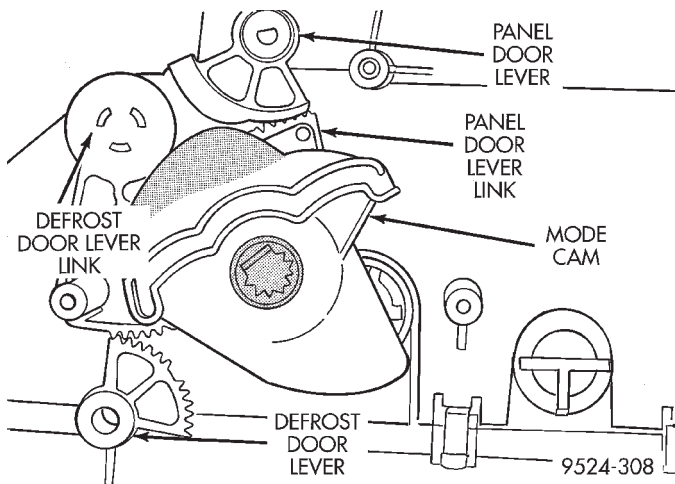
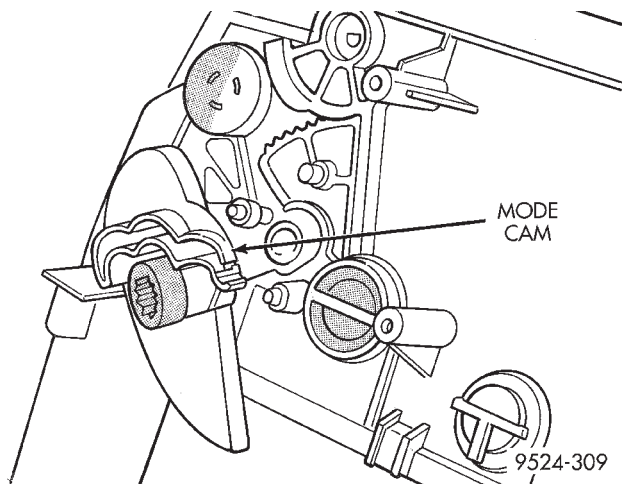

Fig. 101 Mode Motor Cam
Fig. 102 Mode Motor Cam Removal
(30) Remove mode motor cam from housing (Fig. 101) and (Fig. 102).